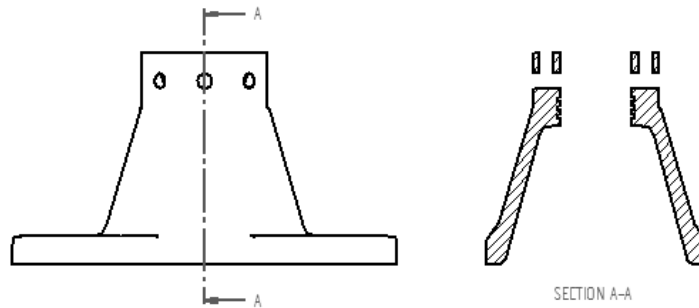

Figure 12-15 Section view displaying only the section area
The **Section Only** button in the command bar is used to generate a section view that displays only that area of the model that is sectioned. Figure 12-15 shows the section view which displays only the section area of the model.
3. Choose the **Section Only** button from the command bar and place the view by clicking on the desired side. The section view is placed, refer to Figure 12-15.